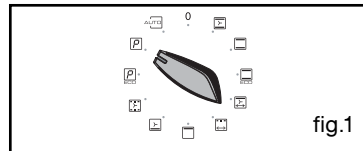

fig.1
- Open the door all the way and fix it in place using the two red stops (fig.1). They are supplied in your appliance's plastic pouch.
All you have to do is position your cooking selector-switch on the  "Self-cleaning" position or the  "ECO self-cleaning" position (fig.1).
- Unscrew the view port (fig.1).